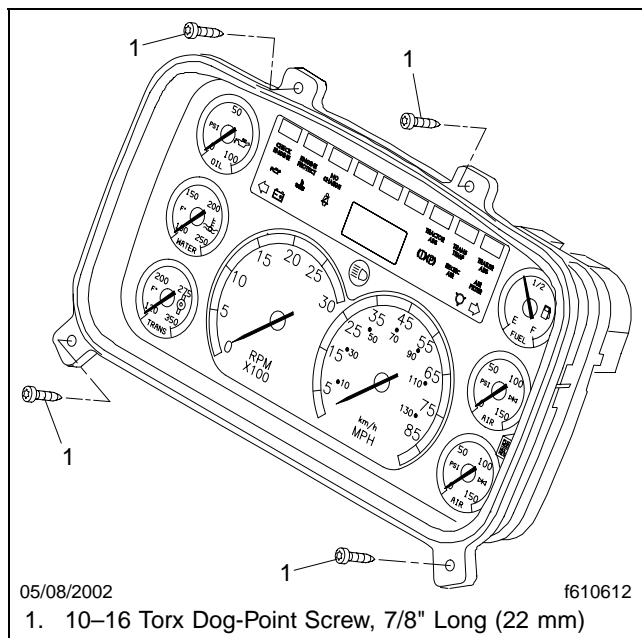

Fig. 3, ICU3-M2 Installation
2. Remove the four screws securing the ICU. Carefully remove the ICU from the dash. See Fig. 3.